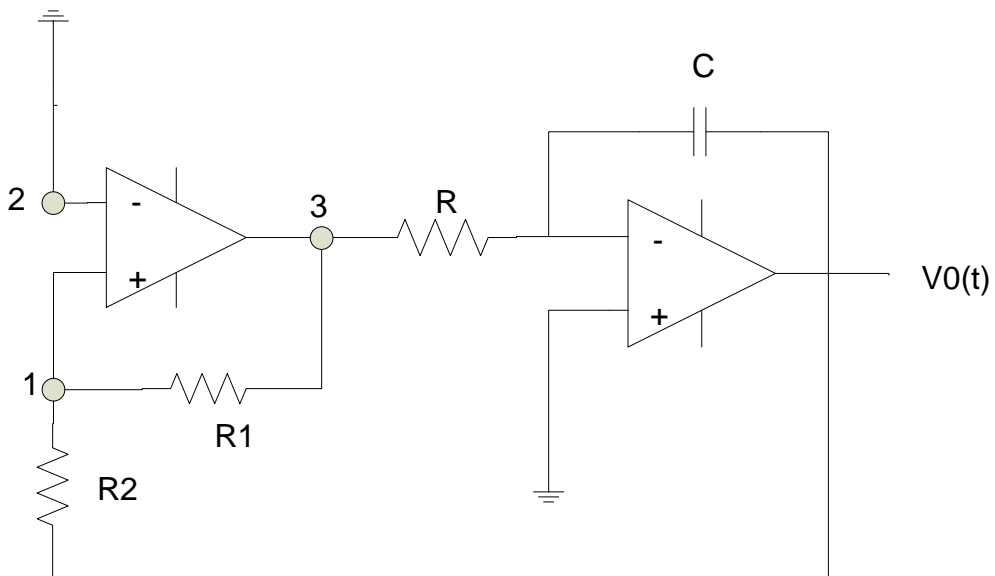

**Figure 6.** Square-wave oscillator circuit
- Set up the circuit in Figure 6 in SPICE environment. Using time domain analysis of the circuit, draw the signals at nodes 1,2 and 3.
Set up the circuit in Figure 6. Measure the oscillation frequency of the circuit. Compare this result with your calculated frequency. Draw the waveforms at nodes 1,2 and 3.
For the circuit in Figure 6, repeat the procedures that you have done for experiment I.